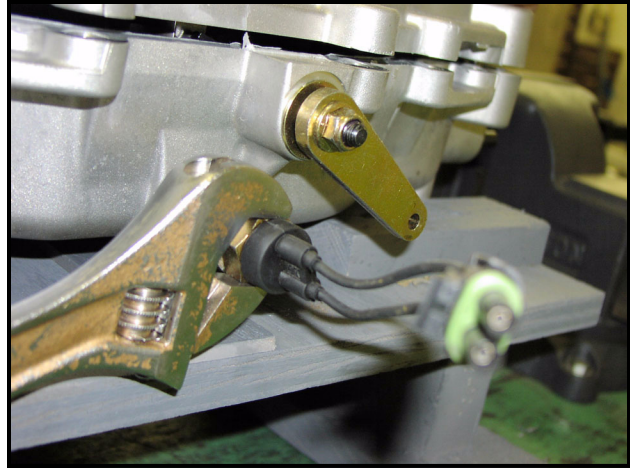

Figure 8-5 Remove Case Bolts
3. Remove hex-head case bolts (**Figure 8-5, Page 8-3**).